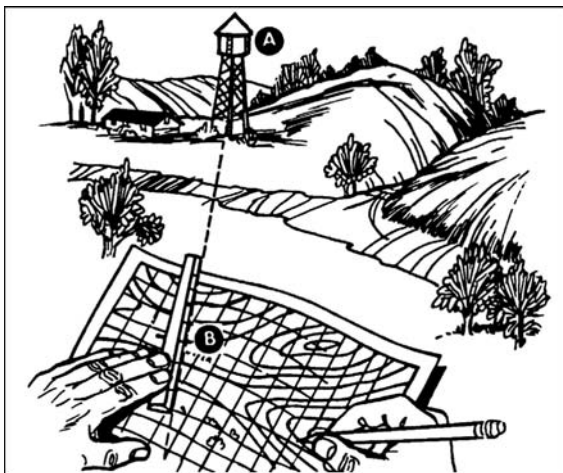

Figure 071-329-1015-2. Resection without a compass
2. Perform resection without a compass (figure 071-329-1015-2).
a. Orient your map as closely as you can, using one of the ways you've learned for finding direction: compass, sun, watch, or stars. Look for some feature, such a water tower (figure 071-329-1015-2, point A), that you can also find on the map. Put a ruler or straight edge on the map, and place it next to the water tower symbol (figure 071-329-1015-2), point B on the map. Align the straightedge so that it points directly at the real water tower. Draw a line along the straight edge or ruler. The line will cross the symbol for the water tower on your map.